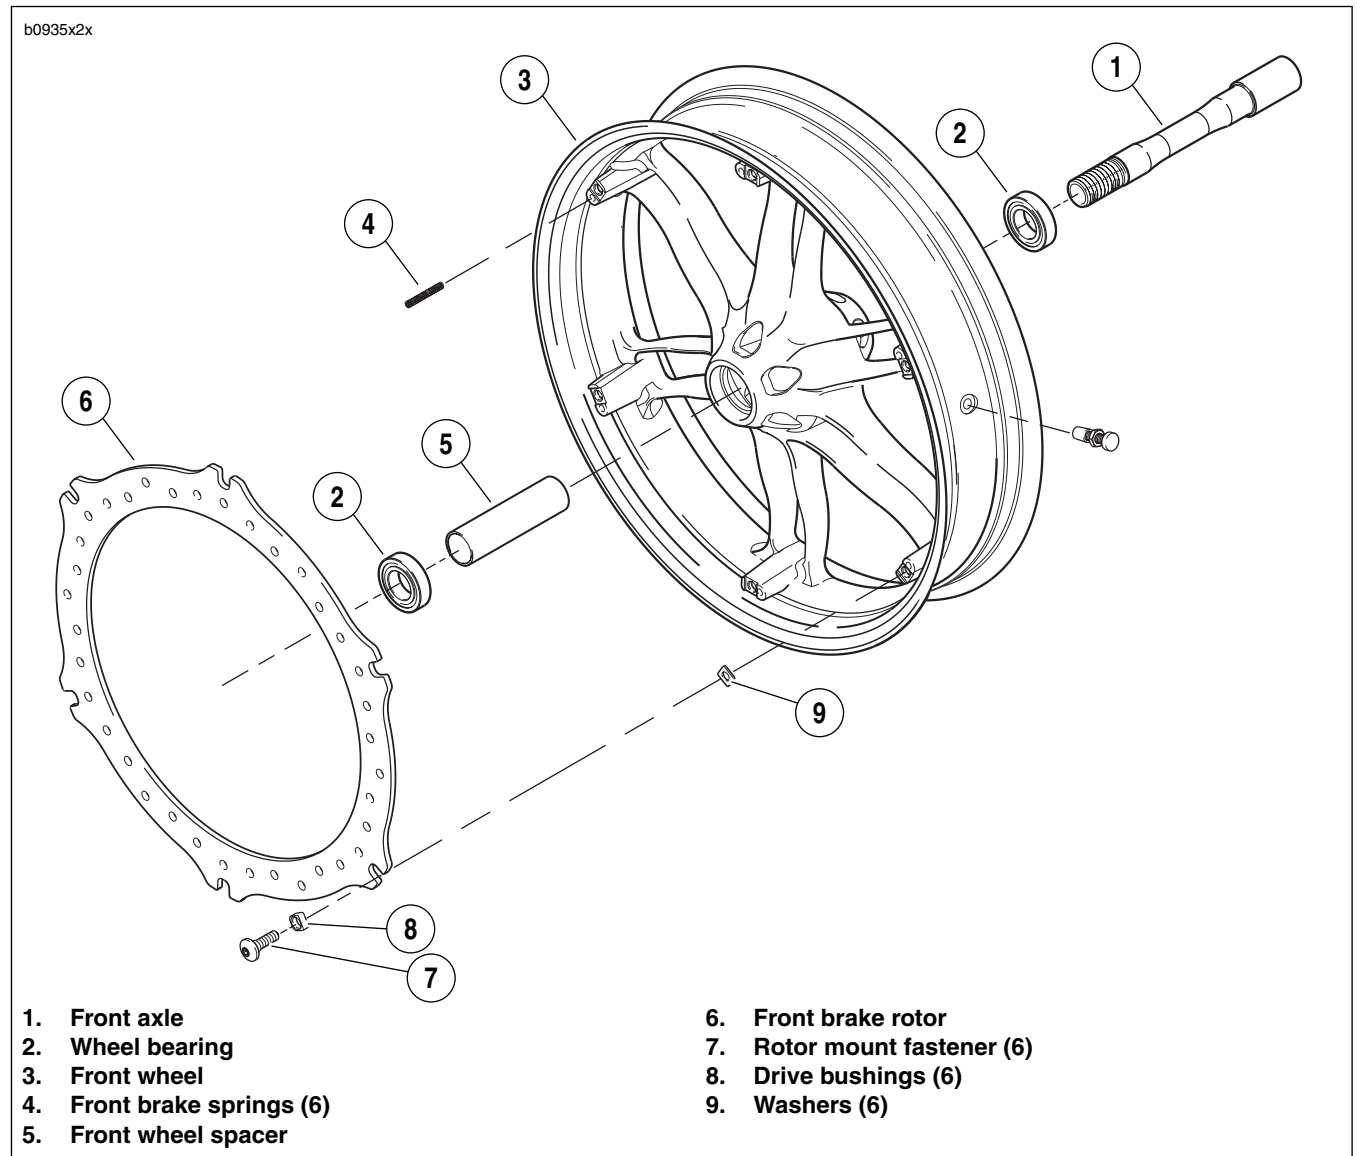

Figure 2-18. Front Wheel Assembly
1. See Figure 2-18. Remove and discard rotor mounting fasteners (7).
2. Remove and inspect brake rotor (6) for wear and warping. See 1.8 TIRES AND WHEELS.
3. Remove drive bushings (8) and discard.
4. Remove washers (9) and discard.
5. Remove front brake springs (4) and discard.
1. See Figure 2-18. Install spacer (5).
2. Install **new** wheel bearings (2) into hub using suitable driver. Press on outer race only.
1. See Figure 2-18. Install **new** spring (4).
2. Install **new** washers (9).
3. Install **new** drive bushings (8) into rotor.